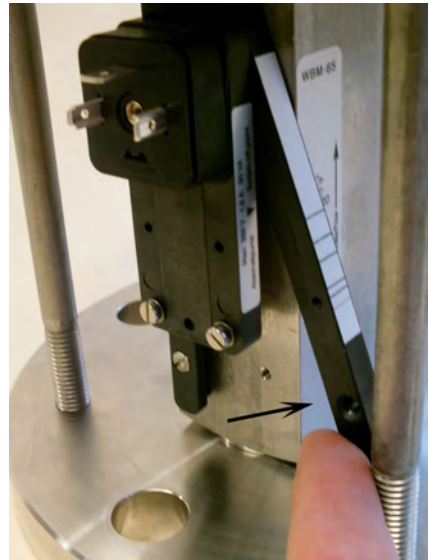

Fig. 77: Rotate guide rail to the side
- 5.**  Rotate guide rail in the direction of the arrow (Fig. 77)